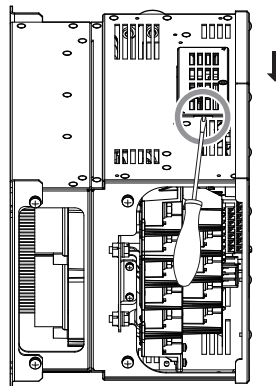

Figure 4.30 Removing the CN19 Connector Cover
3. Insert a straight-edge screwdriver into the opening as shown in Figure 4.30, then remove the CN19 connector cover by sliding it as shown in Figure 4.30.